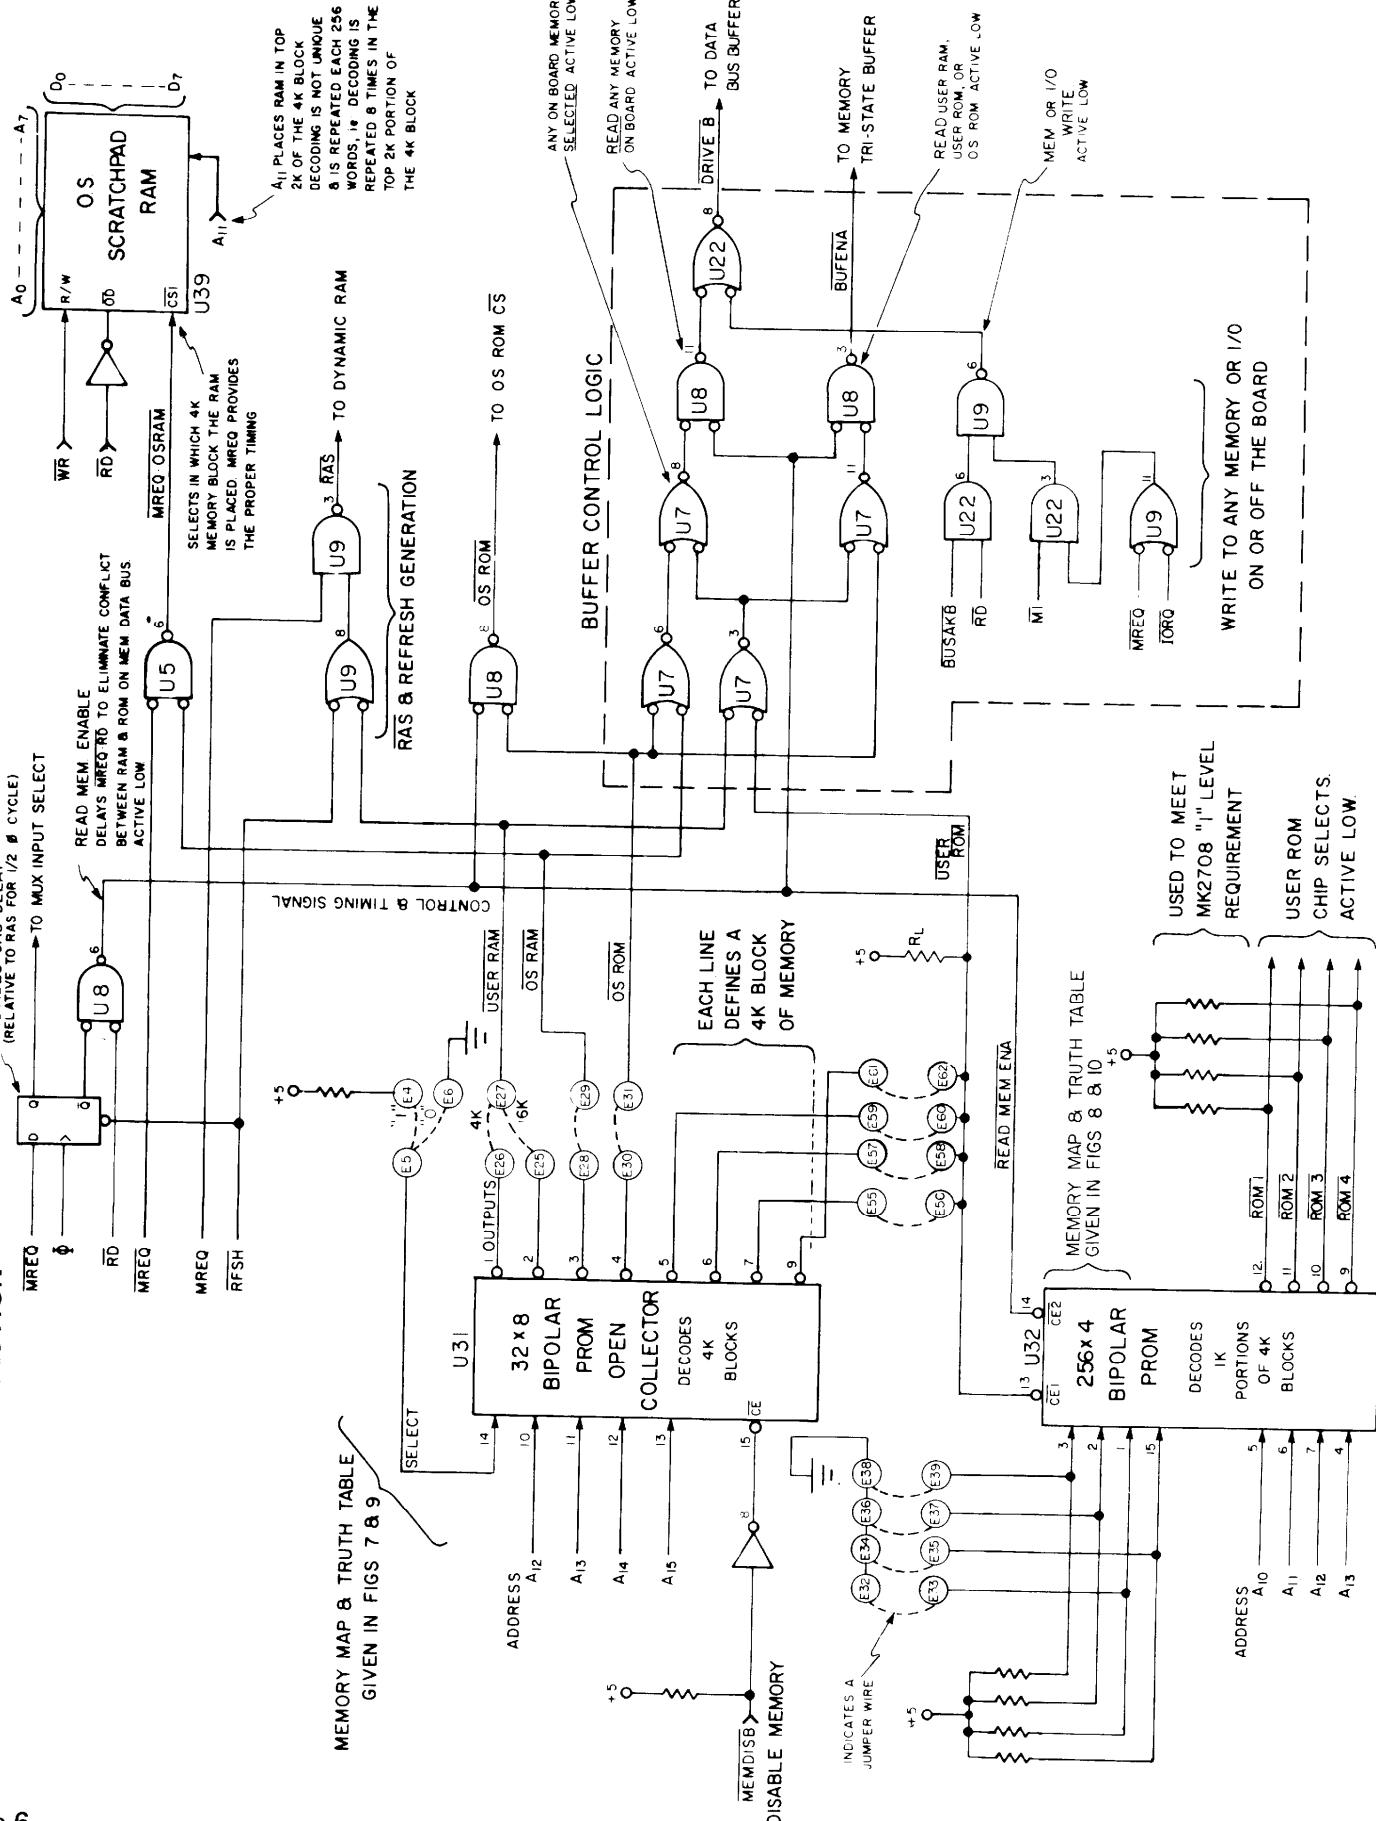
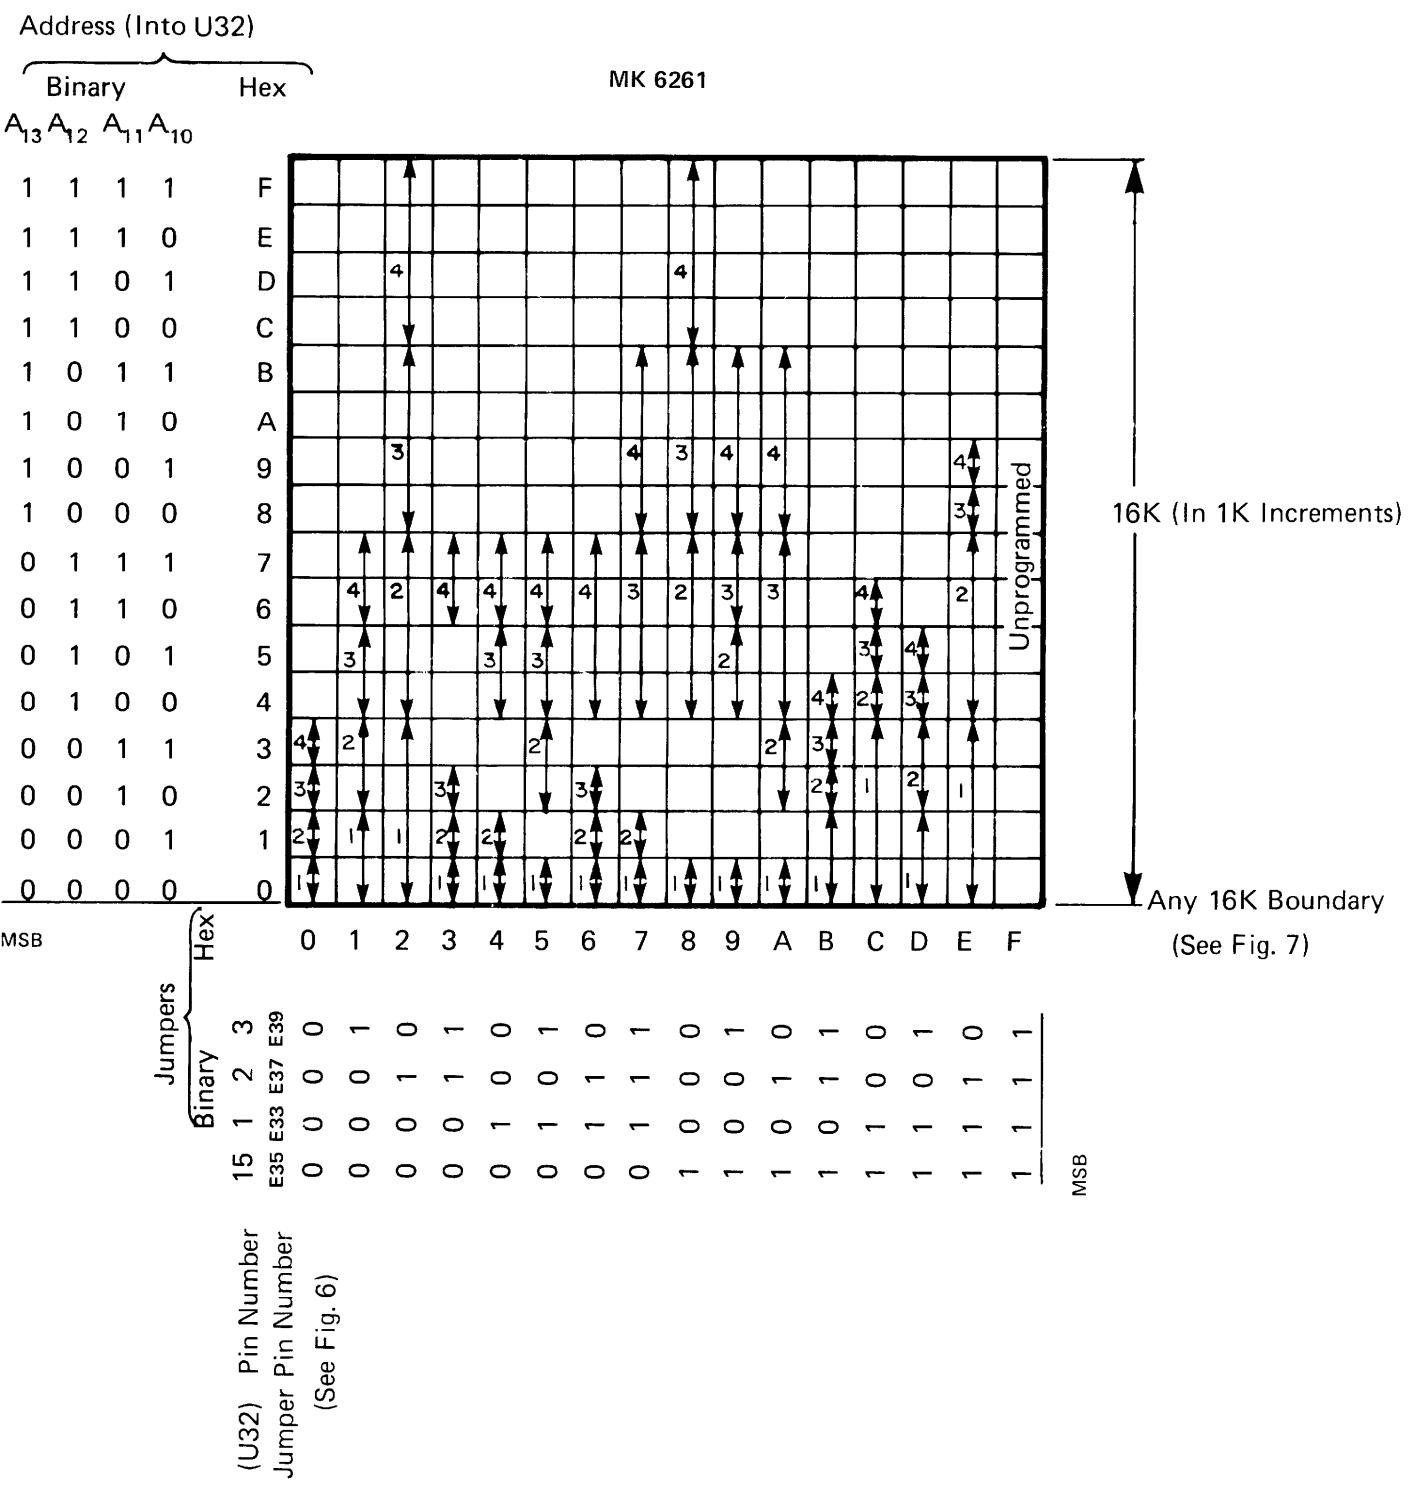

Figure 6
Figure 8
(refer to the schematic of Figure 6)
If all ROM/PROM were in 4K blocks then the only decode necessary would be U31 (and the map in Figure 7). However, because of 1K and 2K ROM/PROMS it is necessary to subdivide the 4K blocks of Figure 7. This is the function of the bipolar PROM U32; to decode 1K memory segments. U31 decodes specific 4K blocks, then enables U32, which in turn divides each block into four 1K segments. Specific USER ROM memories are selected by the lines $\overline{\text{ROM 1}}$ - $\overline{\text{ROM 4}}$ (See Figure 6). The map of U32 is shown in Figure 8.
This map is a 16K subset of the more general map shown in Figure 7. Note that Figure 7 is divided into four 16K areas. Figure 8 represents an expanded view of any one of these areas. It must start on a 16K boundary line. This is true basically because two of the address lines to U32 are common with U31 (A_{12} & A_{13}).
ring to Figure 8, column 0_H shows four contiguous sockets (1, 2, 3, and 4)
3) Assume it is desired to have 16K of RAM starting at address 0_H while also supporting 16K of ROM (for example, four 4K parts containing development system firmware). The RAM would be placed by "output 2" connected to "USER RAM" and $E5 = 0$. The ROM would be placed by Wire-Or-ing "outputs 5, 6, 7, 9" together, connecting to "USER ROM" (to create a 16K space between $A000_H$ & $E000_H$ on Figure 7), and selecting jumper combination 2_H (Figure 8). Jumper combination 2_H is the third column from the left in Figure 8 showing the full 16K decoded space.
The low address ROM is not placed in socket 1 as in the previous examples. The problem comes about in the crossing of 16K boundaries. In decoding the four 4K blocks ($A000_H$ to $E000_H$) the map of Figure 8 must alternate between areas III & IV (depending upon the ROM selected) shown in Figure 7.
When Figure 8 represents area III only the top half of Figure 8 is decoded while for area IV only the bottom of Figure 8 is decoded. Therefore starting at the low address in III the socket that is decoded is socket 3. The next higher address corresponds to socket 4. Going across the 16K boundary the low address memory space ($C000_H$ to $D000_H$) corresponds to the bottom of Figure 8 and to socket 1 while the next higher address ($D000_H$ to $E000_H$) will be decoded in socket 2.
- ii) If the PROM U32 has been coded such that Socket 1 is not always the lowest address and Socket 4 is not always the highest address as shown in Figure 8.
- 4) One last example should be sufficient to illustrate this board's mapping technique. Assume one has an OEM application needing only 256 bytes of RAM, three 2K ROMs and two 1K PROMs. The scratch RAM would be sufficient for this application so, "output 3" would be connected to "OS RAM" (jumper E28 to E29). A 2K ROM would be located in Socket 5 (the O. S. ROM Socket). To enable this socket "output 4" would be connected to "O. S. ROM" (jumper E30 to E31). To place the other ROM/PROM jumper point E5 is strapped to E4. Outputs "5" and "6" are connected to "USER ROM" by jumpering E59 to E60 and E57 to E58. This selects the 8K block of memory 000_H to 2000_H that starts at 000_H. To further divide the 8K space into smaller increments one refers to the detailed map of Figure 8. With the jumpers set to D_H the four
Because the outputs are active low and because there are fewer active states the truth table is programmed with logic "0s" since these are the states of interest. Figure 10 is basically laid out as a representation of the 16 columns, listed as 0_H through F_H (the Hex jumper address) shown in Figure 8. The first three column numbers are listed in Figure 10 for reference. Each column number, of course, is the same as the jumper address (in Hex). Each grid line in the truth table represents a 1K memory segment, the same as in Figure 8.